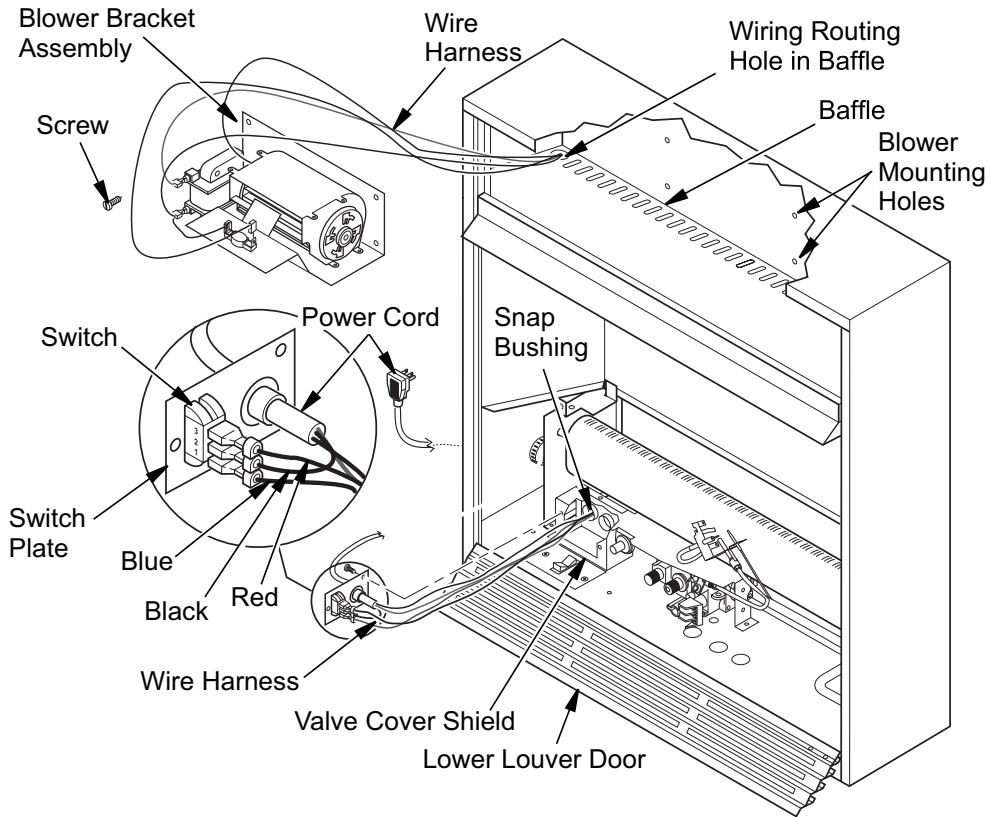
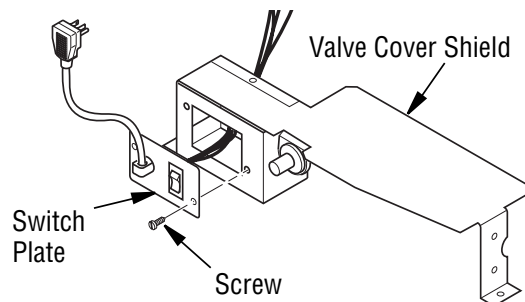

Figure 16 - Installing Blower Bracket Assembly
Figure 18 - Installing Switch Plate to Valve Cover Shield
3. Note the wire locations on back of AUTO/OFF/ON switch. The terminals on back of switch are numbered 1, 2, and 3. Carefully remove red wire from terminal 3 and blue wire from terminal 1. Black wire can remain on middle terminal 2 (see **Figure 16, Page 16**).
5. In top of the fireplace cabinet, locate the four mounting holes on the outer casing. Align these four holes with those on the blower bracket assembly. Attach blower bracket assembly to the outer casing with 4 #10 screws provided (see **Figure 16, Page 16**).
6. Route the wire harness through the hole in left side of baffle. Pull wire harness through lower opening on the side of the valve cover shield (see **Figure 16, Page 16**).
7. Insert the 4 wire harnesses into one of the round holes in the rear of the valve cover shield and through the rectangular hole in the front of shield (see **Figure 16, Page 16**).
9. Install the switch plate on the valve cover shield with 2 #10 screws provided (see **Figure 18, Page 16**). Route power cord out of the cabinet by inserting it through the bushing on the outer casing (see **Figure 16, Page 16**). Plug fan kit into 120-Volt grounded power supply and test operation.